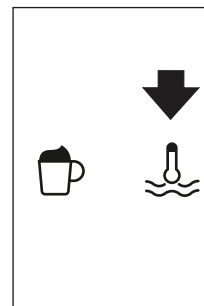

Fig. 27
- ▶ Press the  icon (B13) (Fig. 27).